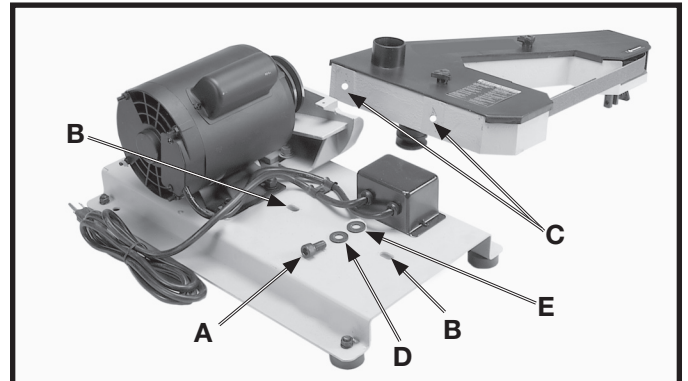
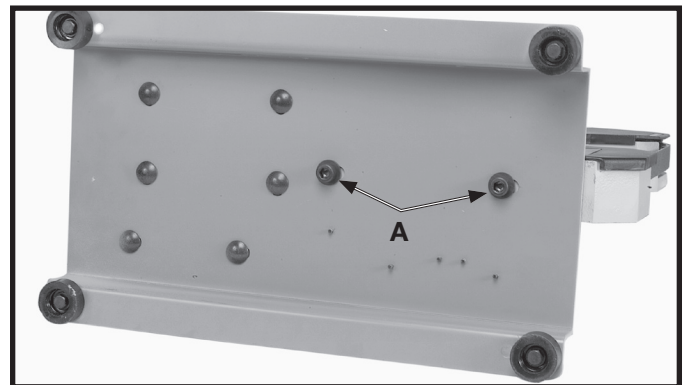

Fig. 1
Fig. 2
1. Place a 10mm lockwasher (D) Fig. 1, and a 10mm flat washer (E) onto a M10x1.5x20mm hex socket head screw (A) and insert the screw up through the hole (B) in the base. **DO NOT COMPLETELY TIGHTEN THE TWO SCREWS (A) FIG. 2 AT THIS TIME.** Thread the screw into the tapped hole (C) in the bottom of the belt unit, repeat this process for the remaining hole.
2. Fig. 2, illustrates the two screws (A), inserted into the two holes in the bottom of the base.
4. Then tighten the two M10x1.5x20mm hex socket head screws (A) Fig. 2, that fasten the belt unit to the base.